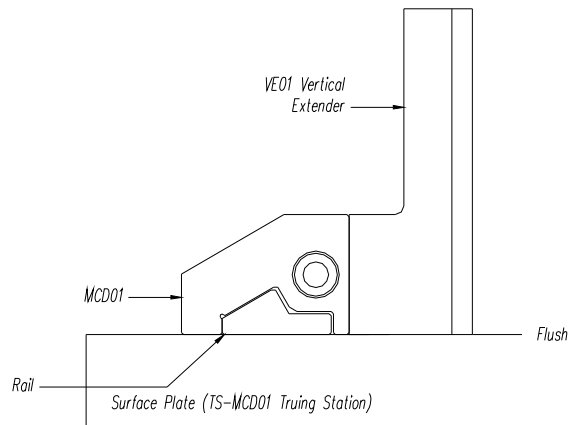

Figure 2
STEP 3. Clamp the VE01, Vertical Extender, onto the TS-MCD01 truing station as shown in Fig. 2.